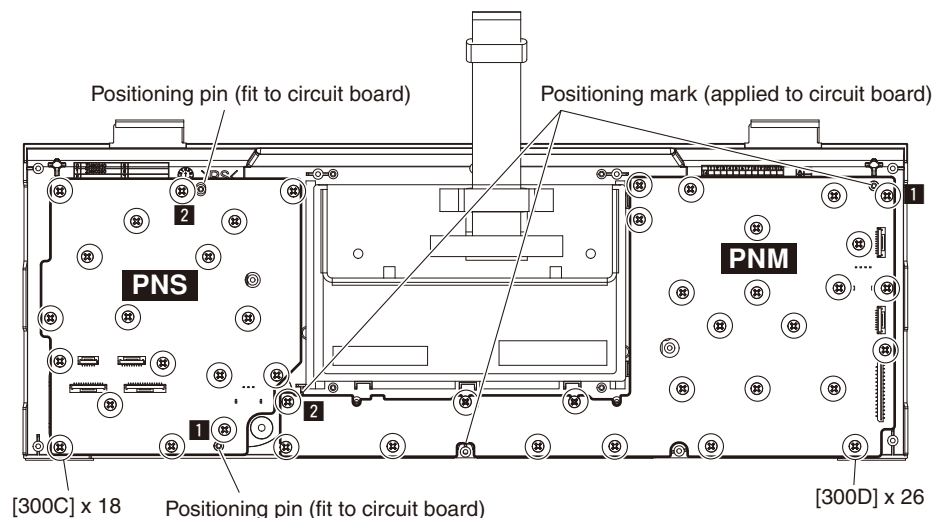

Fig. 8
- 7-3. Remove the eighteen (18) screws marked [300C]. The PNS circuit board can then be removed. (Fig. 8)
- * **When installing the PNS circuit board, fit the PNS circuit board to the positioning pins at 2 locations shown in Fig. 8 first, tighten the screws 1 and 2 in that order and then tighten the other screws.**
- 8-5. Remove the twenty-six (26) screws marked [300D]. The PNM circuit board can then be removed. (Fig. 8)
- * **When installing the PNM circuit board, apply the PNM circuit board to the positioning marks at 3 locations shown in Fig. 8 first, tighten the screws 1 and 2 in that order and then tighten the other screws.**